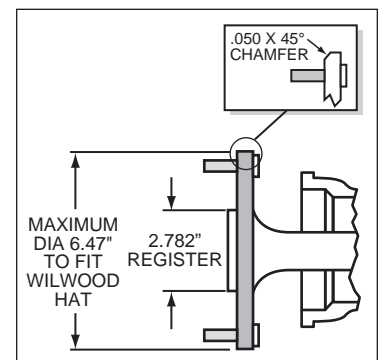

Figure 2. Axle Flange Maximum Dimension
- Maximum axle flange diameter must be no larger than 6.47" w/.050" x 45° chamfer (Figure 2).